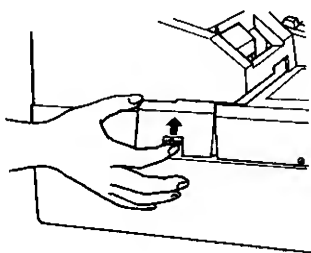

Fig. 4
5. Attach the cover, by inserting the top edge first and pressing the bottom part next. (Fig. 4)